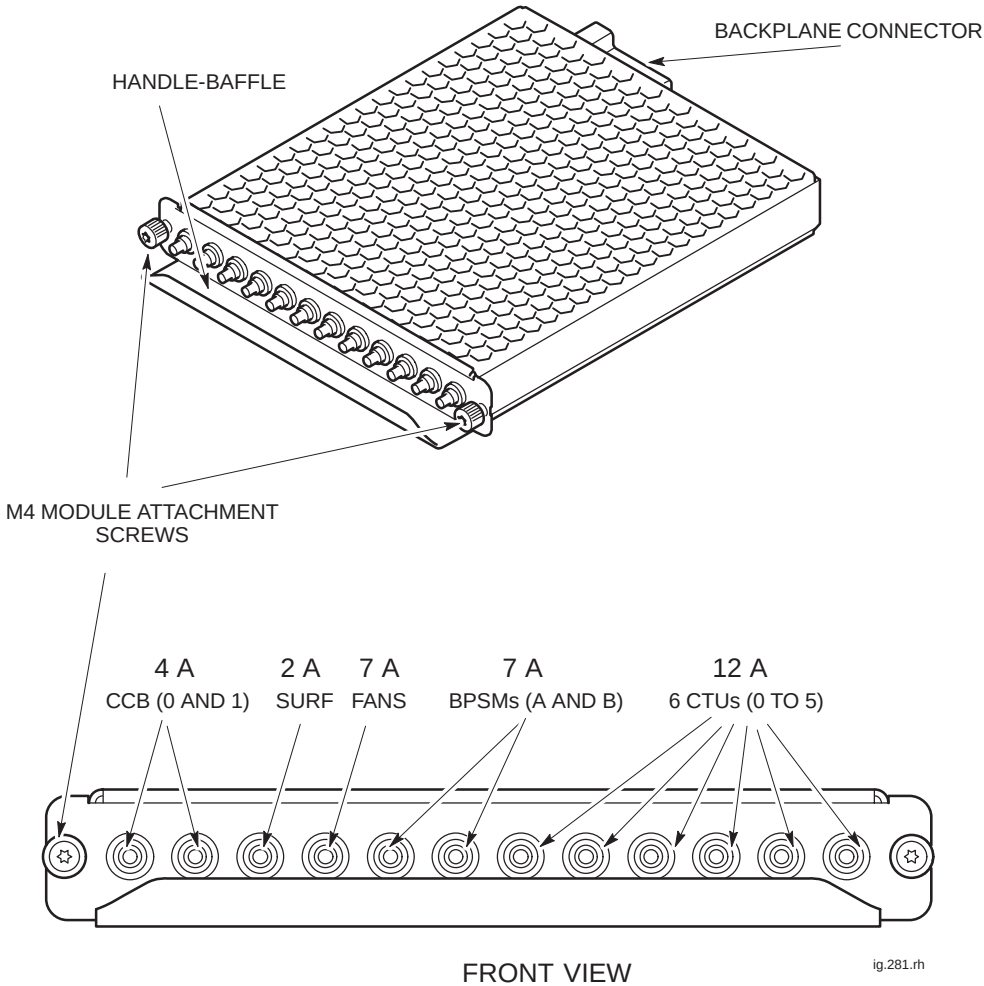

Figure 2-6 Views of CBM with circuit breaker buttons identified
Figure 2-6 shows views of the CBM with circuit breaker buttons identified.
- 3. Unscrew both CBM module attachment screws (shown in Figure 2-6), using a torxdriver.